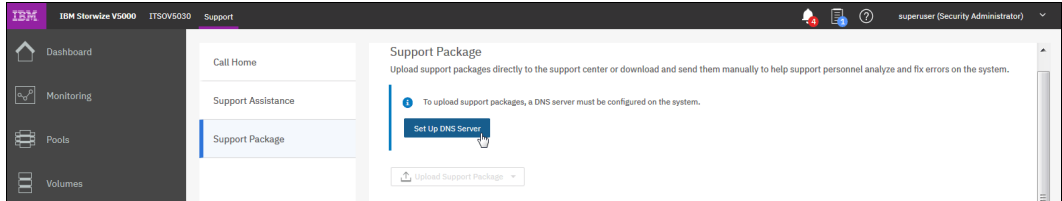

Figure 12-114 Set up DNS Server
- Configure at least one valid DNS server for domain name resolution. To configure a DNS server on the system, click **Set Up DNS Server** (see Figure 12-114). You can also use the `mkdnserver` command to configure DNS servers.